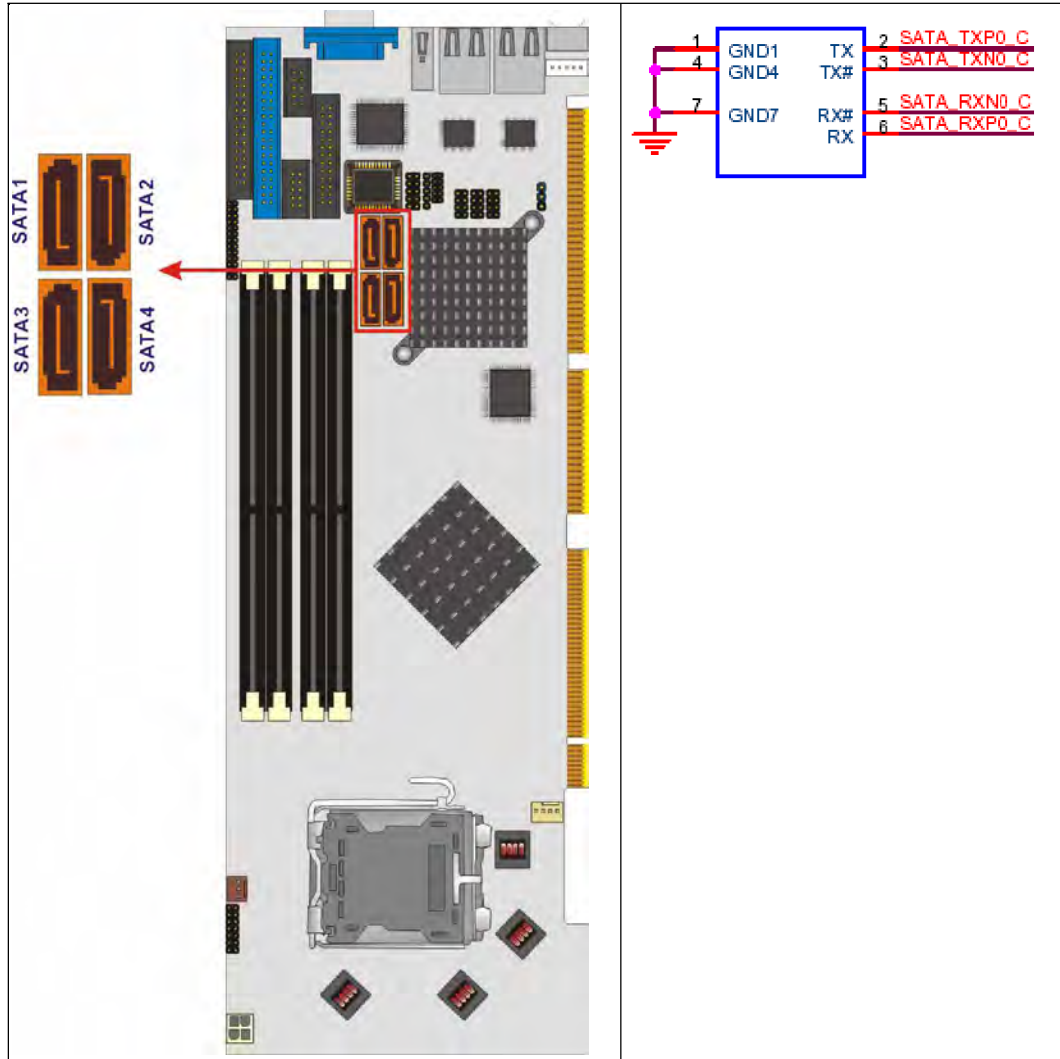

Figure 3-15: SATA Connectors Location
**CN Location:** See **Figure 3-15**